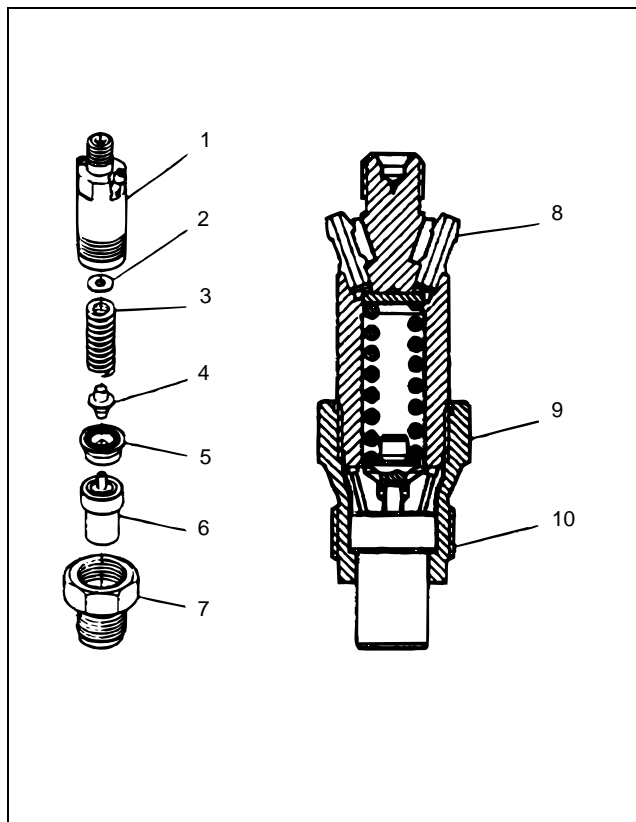

Figure 40
3. Install the adjusting shims, spring, push rod, spacer and injector (Fig. 40, Items 2, 3, 4, 5, 6).